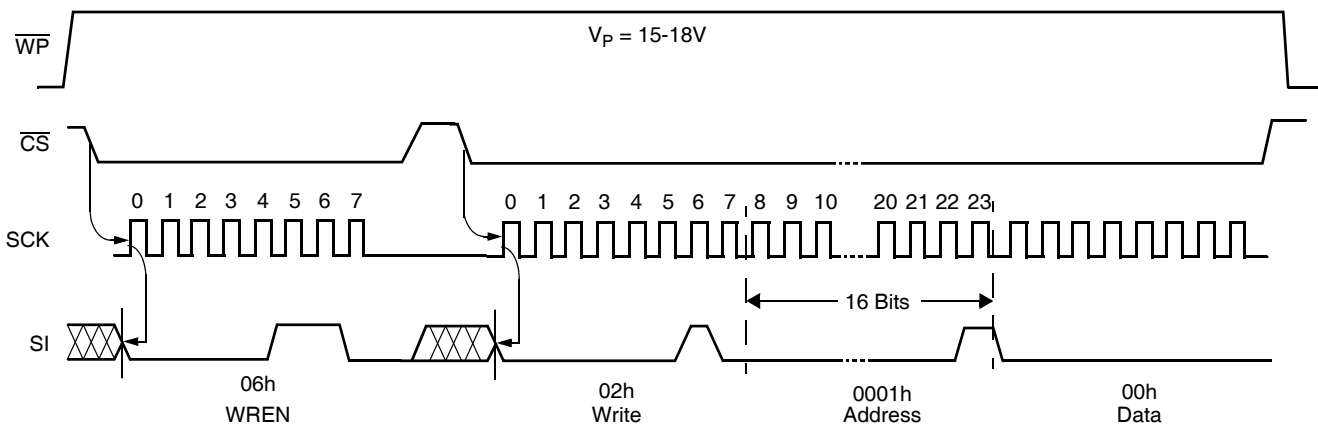

FIGURE 1. SET V_{TRIP} LEVEL SEQUENCE ($V_{CC} =$ DESIRED V_{TRIP} VALUE)
0000 0001	Write status instruction—followed by: Block lock/WDT byte: (See Figure 1) 000WD ₁ WD ₂ 000 --->no block lock: 00h-00h--->none of the array 000WD ₁ WD ₂ 001 --->block lock Q1: 0000h-00FFh--->lower quadrant (Q1) 000WD ₁ WD ₂ 010 --->block lock Q2: 0100h-01FFh--->Q2 000WD ₁ WD ₂ 011 --->block lock Q3: 0200h-02FFh--->Q3 000WD ₁ WD ₂ 100 --->block lock Q4: 0300h-03FFh--->upper quadrant (Q4) 000WD ₁ WD ₂ 101 --->block lock H1: 0000h-01FFh--->lower half of the array (H1) 000WD ₁ WD ₂ 110 --->block lock P0: 0000h-000Fh--->lower page (P0) 000WD ₁ WD ₂ 111 --->block lock Pn: 03F0h-03FFh--->upper page (PN)